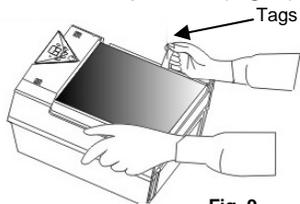

Fig. 9
4. To remove the HEPA filter, pull up on the tags on either side of the filter and lift upwards. (Fig. 9)
3. To remove the HEPA filter, pull up on the tags on either side of the filter and lift upwards. (Fig. 9)